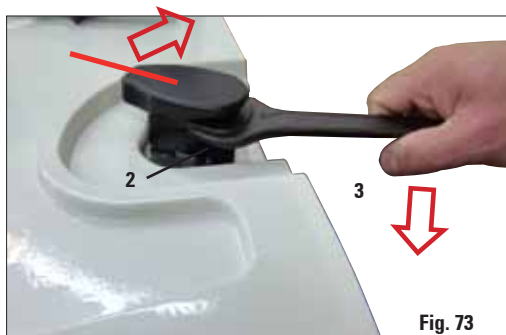

Fig. 73
- Put the single-head wrench in place below the retort lock (Fig. 73, 2).
- Turn the retort lock further clockwise using the single-head wrench (Fig. 73, 3) and overcome the stop (breaking the retaining pin at the predetermined breaking point).